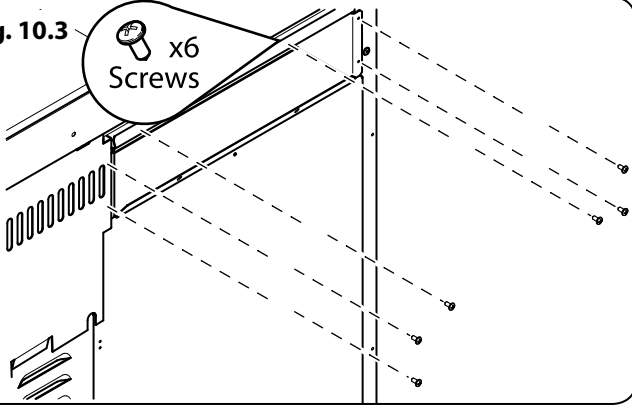

Fig. 10.4
2. The shape of the molex plug should match the socket. Gently connect the molex plug to the molex connector socket **Fig. 10.4**.